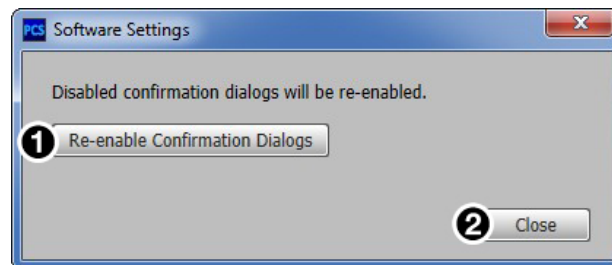

Figure 36. Software Settings Dialog Box
2. Click the **Re-enable Confirmation Dialogs** button (see figure 36, ❶). The dialog box closes and the reset is complete.